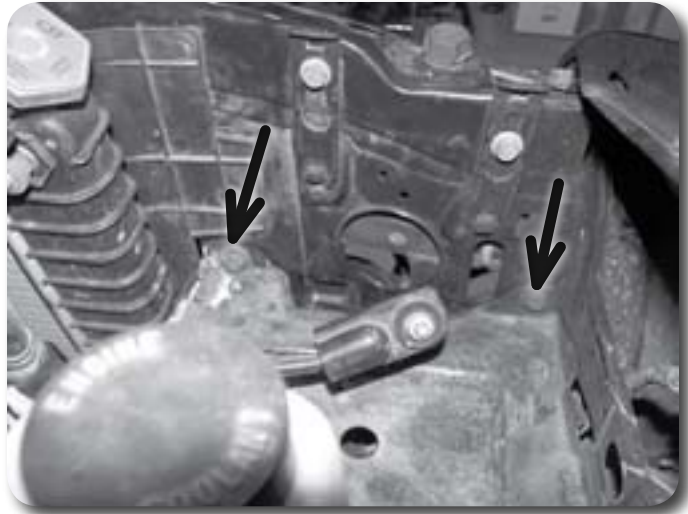

Figure 14
18. 4wd only: Remove the two bolts mounting the battery tray to the core support and remove the battery tray from the vehicle Figure 14.